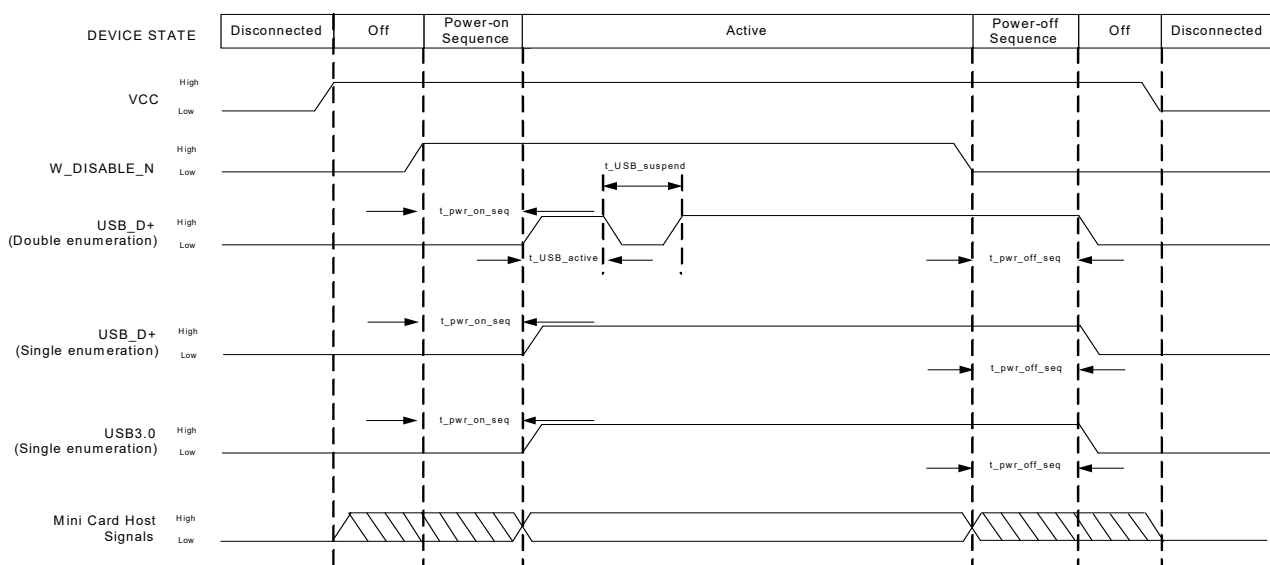

Figure 5-2: Signal Timing ($W_DISABLE_N$, and USB Enumeration)
Figure 5-2 describes the timing sequence for powering the module on and off.
- Double enumeration—As shown in Figure 5-2 on page 47: